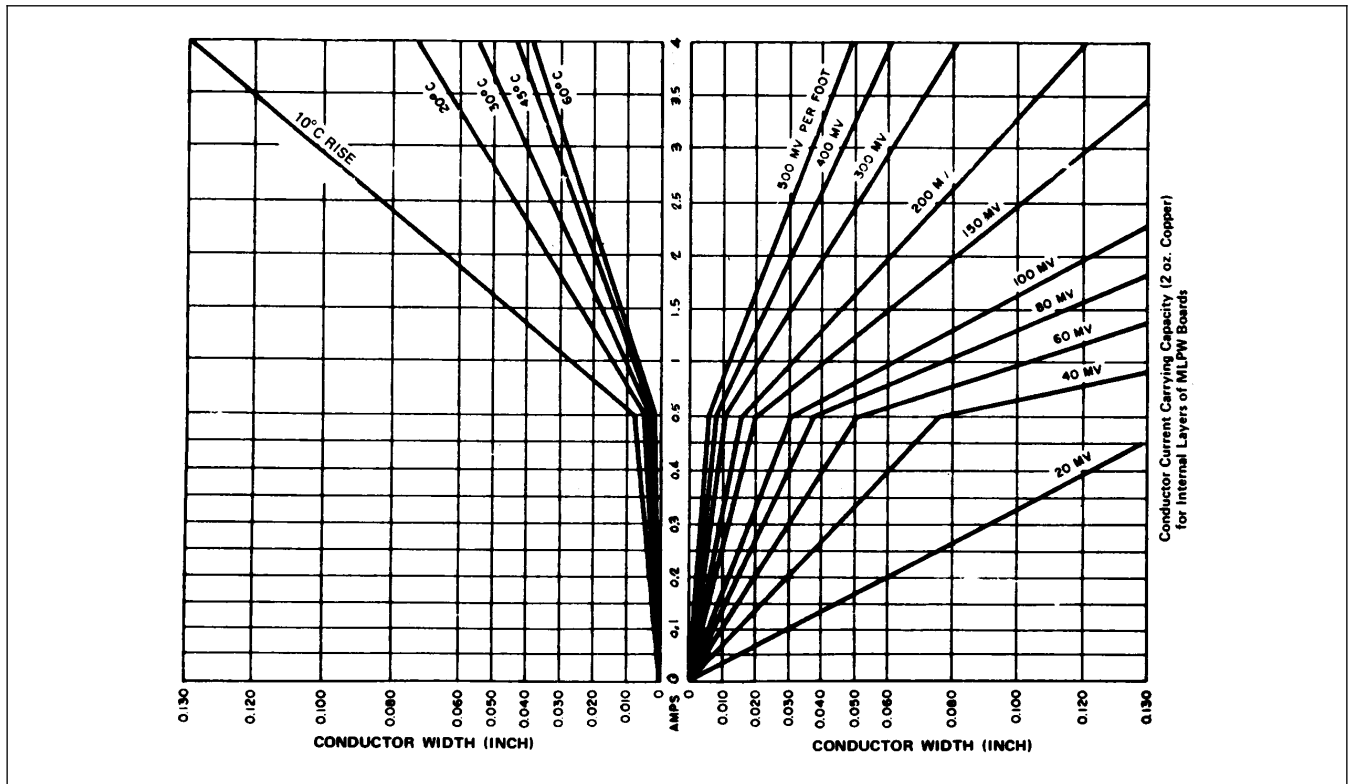

Figure 1 Conductor Thickness and Width
5.1.5 Note should also be made to see if there has been a temperature rise in excess of 20°C. Refer to Fig. 1.